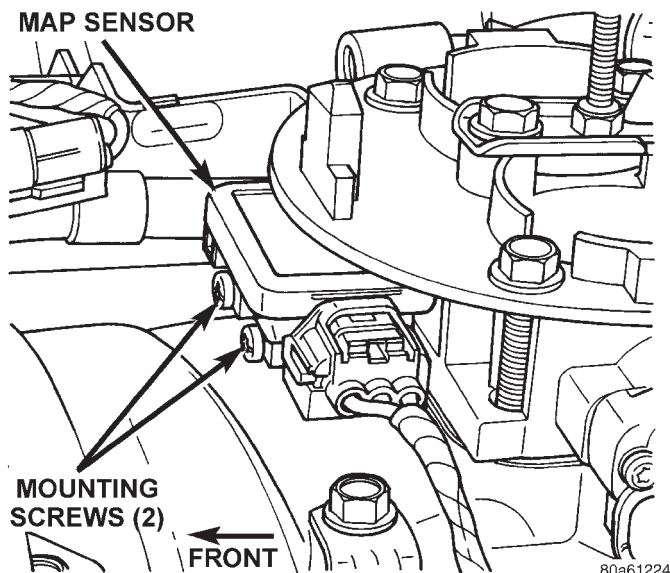
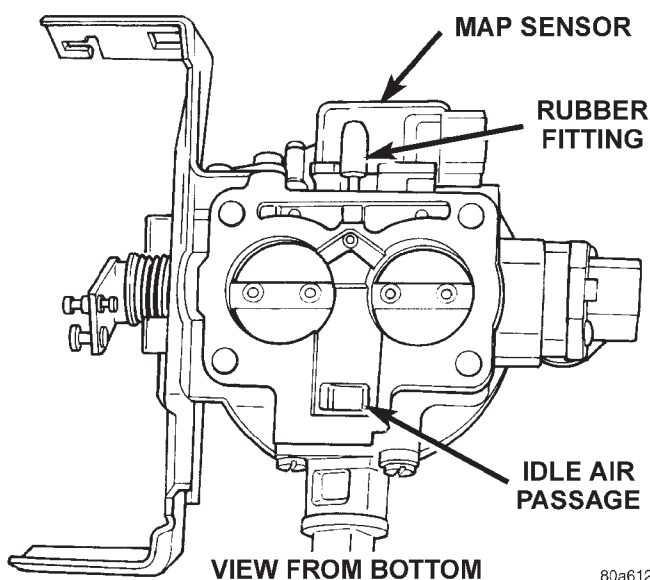

Fig. 73 MAP Sensor Mounting Screws—5.2L/5.9L Engines
Fig. 74 MAP Sensor L-Shaped Rubber Fitting—5.2L/5.9L Engines
The MAP sensor is located on the front of the throttle body (Fig. 73). An L-shaped rubber fitting is used to connect the MAP sensor to throttle body (Fig. 74).
- (1) Remove air duct at throttle body.
- (2) Disconnect electrical connector at sensor.
- (3) Remove two MAP sensor mounting bolts (screws) (Fig. 74).
- (4) While removing MAP sensor, slide the vacuum rubber L-shaped fitting (Fig. 74) from the throttle body.
- (5) Remove rubber L-shaped fitting from MAP sensor.